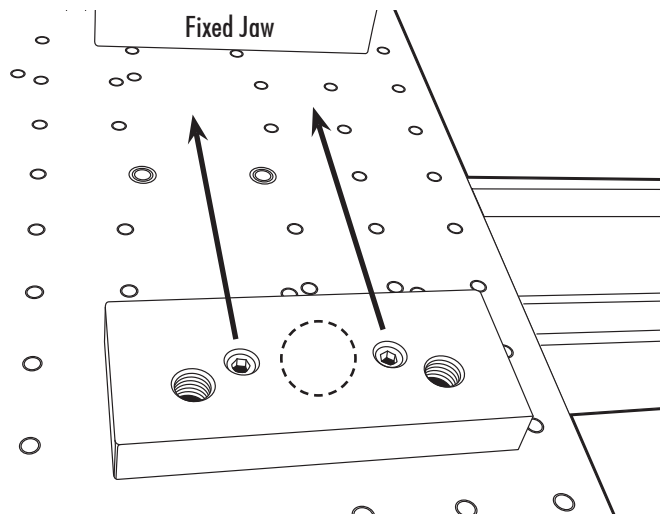

FIGURE 11
- Using the T-slots, position the MBP in the approximate desired position on the table. The MBP should be orientated so the T-nut holes are toward the fixed jaw assembly (see Figure 11). Leave the T-nut screws loose for the next steps of the instructions.